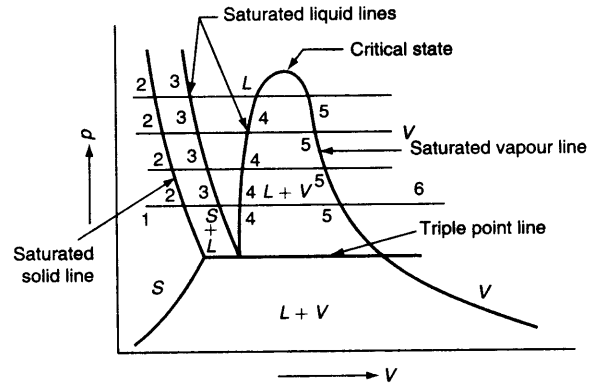

Fig. 9.4  $p-v$  diagram of a pure substance other than water, whose volume increases on melting
Figure 9.4 shows state changes of a pure substance other than water whose volume increases on melting.
To the left of the saturated solid line is the *solid (S) region* (Fig. 9.4). Between the saturated solid line and saturated liquid line with respect to solidification there exists the *solid-liquid mixture (S + L) region*. Between the two saturated liquid lines is the *compressed liquid region*. The *liquid-vapour mixture region (L + V)* exists within the vapour dome between the saturated liquid and saturated vapour lines. To the right of the saturated vapour line is the *vapour region*. The *triple point* is a line on the  $p-v$  diagram, where all the three phases, solid, liquid, and gas, exist in equilibrium. At a pressure below the triple point line, the substance cannot exist in the liquid phase, and the substance, when heated, transforms from solid to vapour (known as sublimation) by absorbing the latent heat of sublimation from the surroundings. The region below the triple point line is, therefore, the *solid-vapour (S + V) mixture region*. Table 9.1 gives the triple point data for a number of substances.